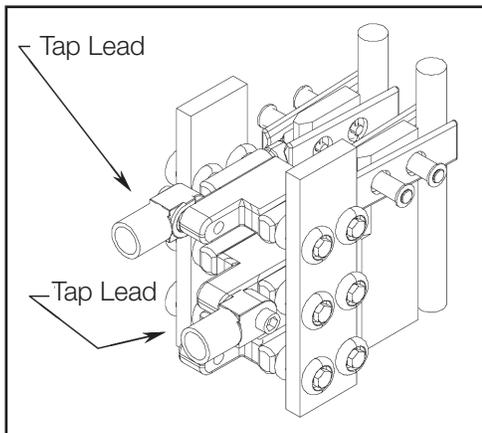

Figure 12.
- Cut tap leads to the correct length for connection to the appropriate tap changer terminal. Crimp the supplied connectors to the tap leads. Connect the tap leads to the correct tap changer terminal. The tap leads are connected to alternate sides of the switch (See Figure 12)